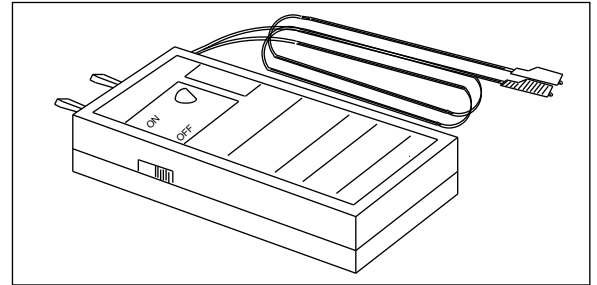

FIGURE 1 METER ADAPTER
- 1.01 This Protectowire Alarm Point Locator Meter Adapter Model APL-90 is manufactured by The Protectowire Co. Inc. (See Figure 1 & 6)